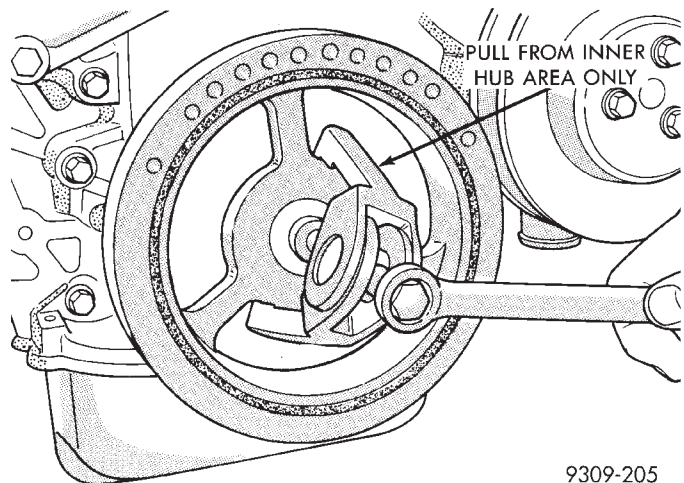

Fig. 1 Removing Crankshaft Pulley
(1) Disconnect battery.
(2) Drain cooling system. Refer to Cooling System Group 7 for procedure.
(3) Support engine and remove right engine mount.
(4) Raise vehicle on hoist. Drain engine oil.
(5) Remove oil pan and oil pump pick-up. It may be necessary to remove transmission inspection cover.
(6) Remove right wheel and inner splash shield.
(7) Remove drive belt. Refer to Cooling System Group 7 for procedure.
(8) Remove A/C compressor and set aside.
(9) Remove A/C compressor mounting bracket.
(10) Remove crankshaft pulley (Fig. 1).